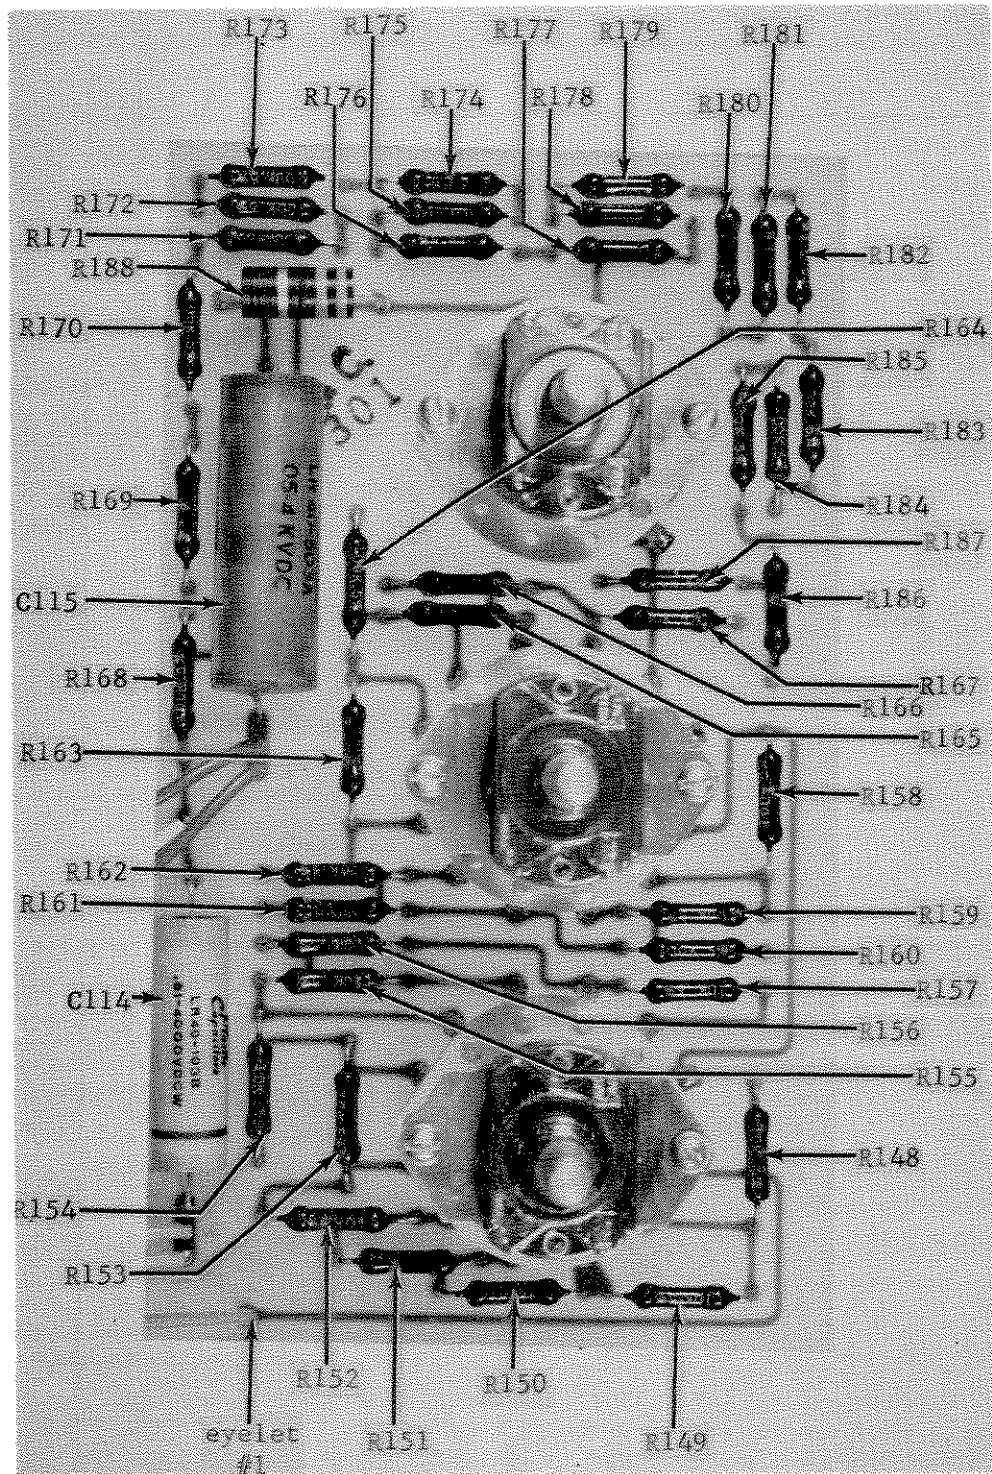

FIGURE 18. Component and Eyelet Locations on PC-130.
b. In overload condition, the voltage between the emitter and collector of transistor Q110 (Figure 18) should be more than 105 volts. If it is and the lamp will not light, then the lamp is defective.